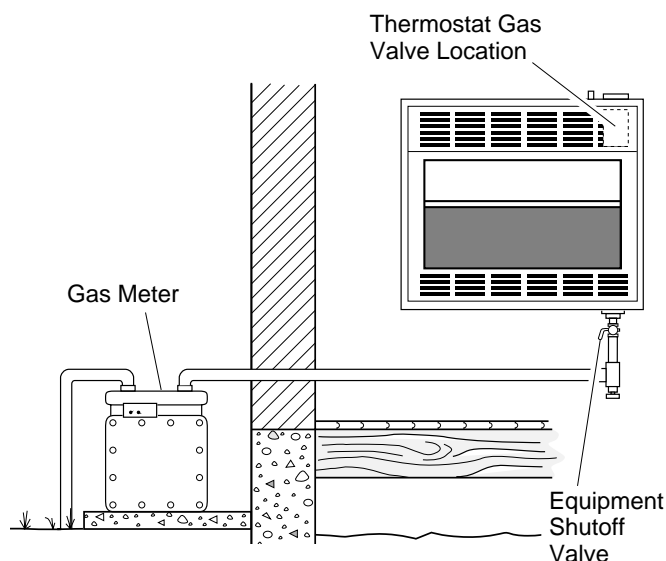

Figure 22 - Checking Gas Joints
3. Check all joints from gas meter to equipment shutoff valve (see Figure 22). Apply mixture of liquid soap and water to gas joints. Bubbles forming show a leak.
4. Check all joints from equipment shutoff valve to thermostat gas valve (see Figure 22). Apply mixture of liquid soap and water to gas joints. Bubbles forming show a leak.